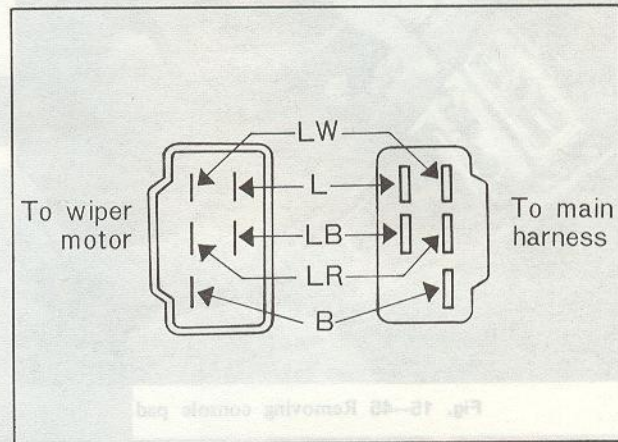

Fig. 15-54 Wiper motor connector
1. Tighten the bolts attaching the wiper motor assembly in numerical order as shown in Fig. 15-54.